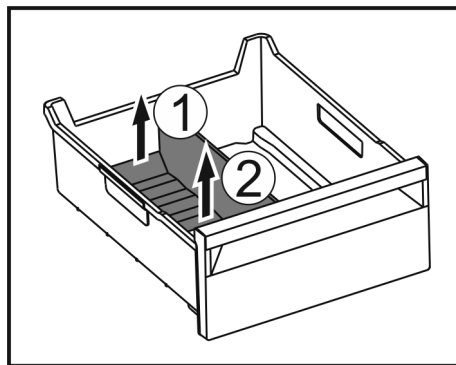

Fig. 121
- ▶ Lift the rear part of the ice compartment divider. Fig. 121 (1)
- ▶ Remove the ice compartment divider upwards. Fig. 121 (2)